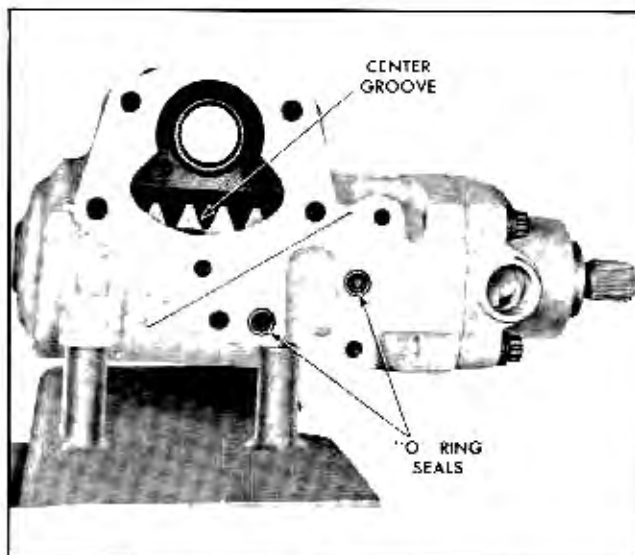

Fig. 9-61 Rack-Piston Centered
1. Turn steering worm until center groove of rack-piston is aligned with center of pitman shaft needle bearing (Fig. 9-61). Tape serrations of pitman shaft before installing to protect oil seals.
2. Lubricate housing valve port "O" ring seals and assemble to housing (Fig. 9-61).